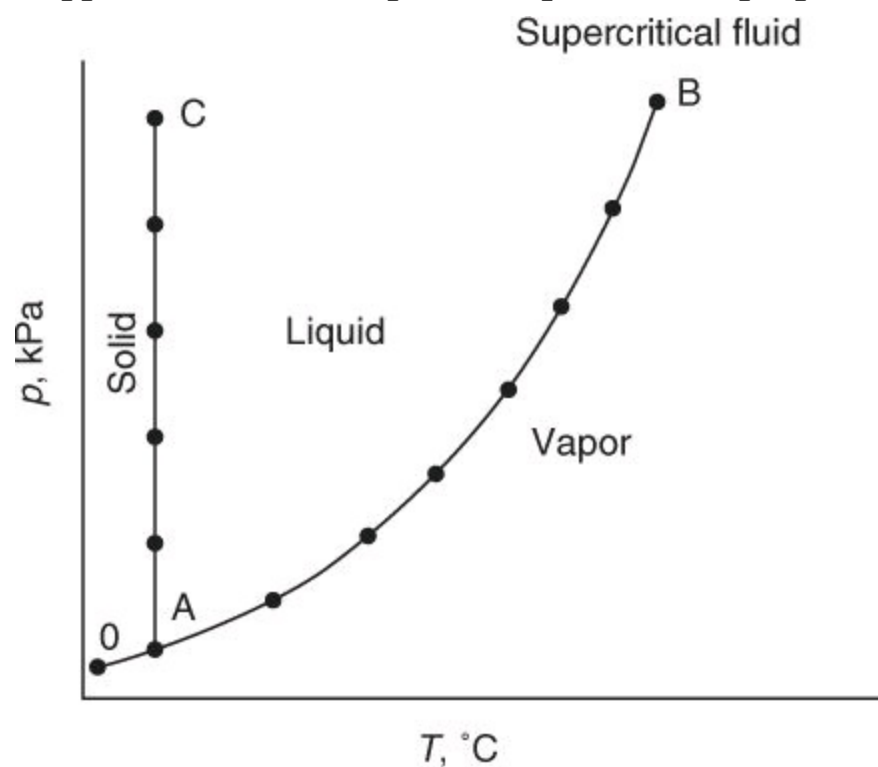
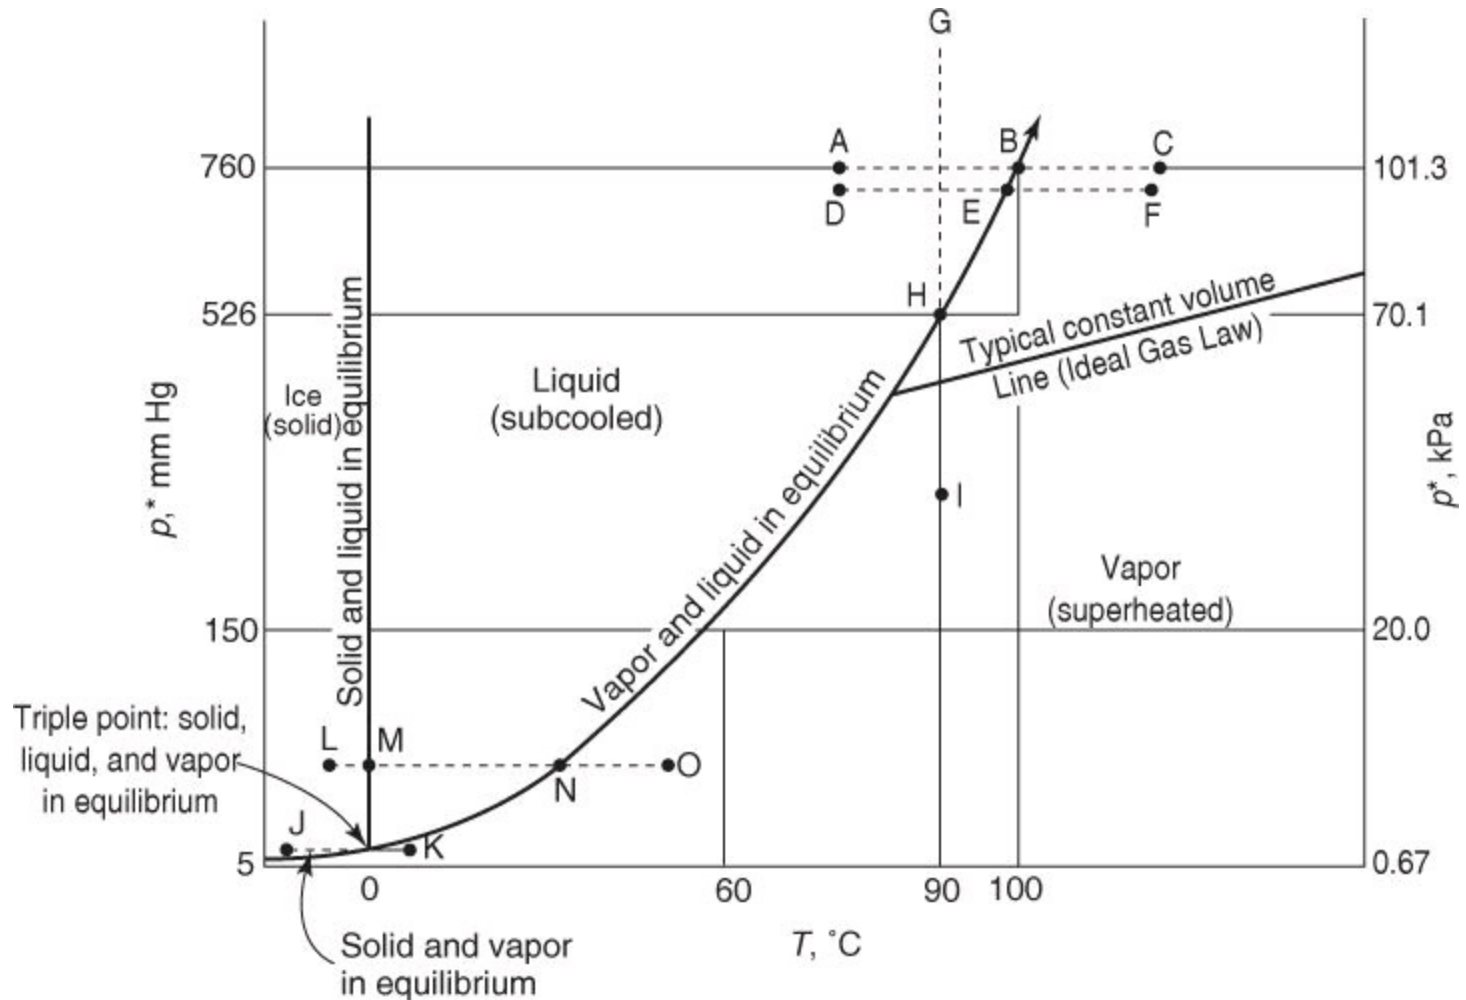

Figure 8.2. Results of the experiment of heating at constant volume shown on a phase diagram (p versus T at constant \hat{v})
Figure 8.3. Various common processes as represented on a p^* - T diagram
the measured pressures as a function of temperature, you will get Figure 8.2—a phase diagram—in which all of the measurements made have been fitted by a continuous smooth curve for clarity.
The initial conditions of p and T in the chamber are at 0 in Figure 8.2 with the solid in equilibrium with the vapor.
We next take up some terminology associated with processes that are conveniently represented on a p^*-T phase chart such as Figure 8.3 (in the definitions of terms that follow, the letters in parentheses refer to the corresponding process denoted in Figure 8.3 by the same sequence of letters):
- **Supercritical region:** p - T values above the critical point (not shown in Figure 8.3).
In Figure 8.3 the process of evaporation and condensation of water at 1 atm is represented by the line ABC with the phase transformation occurring at 100°C . Suppose that you went to the top of Pikes Peak and repeated the process of evaporation and condensation in the open air. What would happen then? The process would be the same (points DEF) with the exception of the temperature and pressure at which the water would begin to boil, or condense. Since the pressure of the atmosphere at the top of Pikes Peak is lower than 101.3 kPa, the water would start to boil at a lower temperature. Some unfortunate consequences might result if you expected to kill certain types of disease-causing bacteria by boiling the water! In addition, it will take longer to cook rice at that elevation due to the lower boiling point for water at higher elevations.
A pure compound can change phase at constant volume from a liquid to a vapor, or the reverse, via a constant temperature process as well as a constant pressure process. A process of **vaporization**, or **condensation, at constant temperature** is illustrated by the lines GHI or IHG, respectively, in Figure 8.3. Water would vaporize or condense at constant temperature as the pressure reached point H on the vapor-pressure curve. The change that occurs at H is the increase or decrease in the fraction of vapor, or liquid, respectively, at the fixed temperature. The pressure does not change until all of the vapor, or liquid, has completed the phase transition.
the measurements made when saturation of liquid and vapor coexist and are deemed to form the envelope for the **two-phase** region that from a different angle appears in Figures 8.2 and 8.3 as the vapor-pressure curve. The two-phase region (e.g., A to B or D to C) represents the conditions under which liquid and vapor can exist at equilibrium. Note from Figure 8.4 the discontinuous change in the specific volume in going from a liquid to a solid at the triple point. In other words, water expands when it freezes, and this is why ships trapped in the polar ice can be crushed by the force of the expanding ice. By comparing Figures 8.3 and 8.4, you can see that lines AB and CD in the $p-\hat{V}$ phase diagram (Figure 8.4) correspond to a single point in the $p-T$ diagram (Figure 8.3).
That is, by examining the location of \hat{V} in relation to $\hat{V}_{\text{vapor}}^{\text{sat.}}$ and $\hat{V}_{\text{liquid}}^{\text{sat.}}$ you can determine the quality. Figures 8.3 and 8.4 can be reconciled by looking at the three-dimensional surface that illustrates the $p-\hat{V}-T$ (see Figure 8.6).
You can see that vapor pressure is the two-dimensional projection, yielding a curve, of a three-dimensional surface into the p - T plane. Note that the vapor-pressure curve in a p - T plane is actually a surface in the three-dimensional representation because a vapor and liquid at equilibrium are at the same temperature (see Figure 8.6). Figure 8.3 thus proves to be a portion of the complete region shown in Figure 8.6.
You can understand the behavior of single-component two-phase systems by examining the phase diagram of the component of interest. For example, consider the p^* -versus- T diagram (at constant \hat{V}) for water shown in Figure 8.3. The relationship between temperature and pressure for steam and liquid water phases in equilibrium is represented by the line from the triple point up to point B. In the remainder of this section we will explain how to determine values for the vapor pressure given the temperature, or the temperature given the vapor pressure.